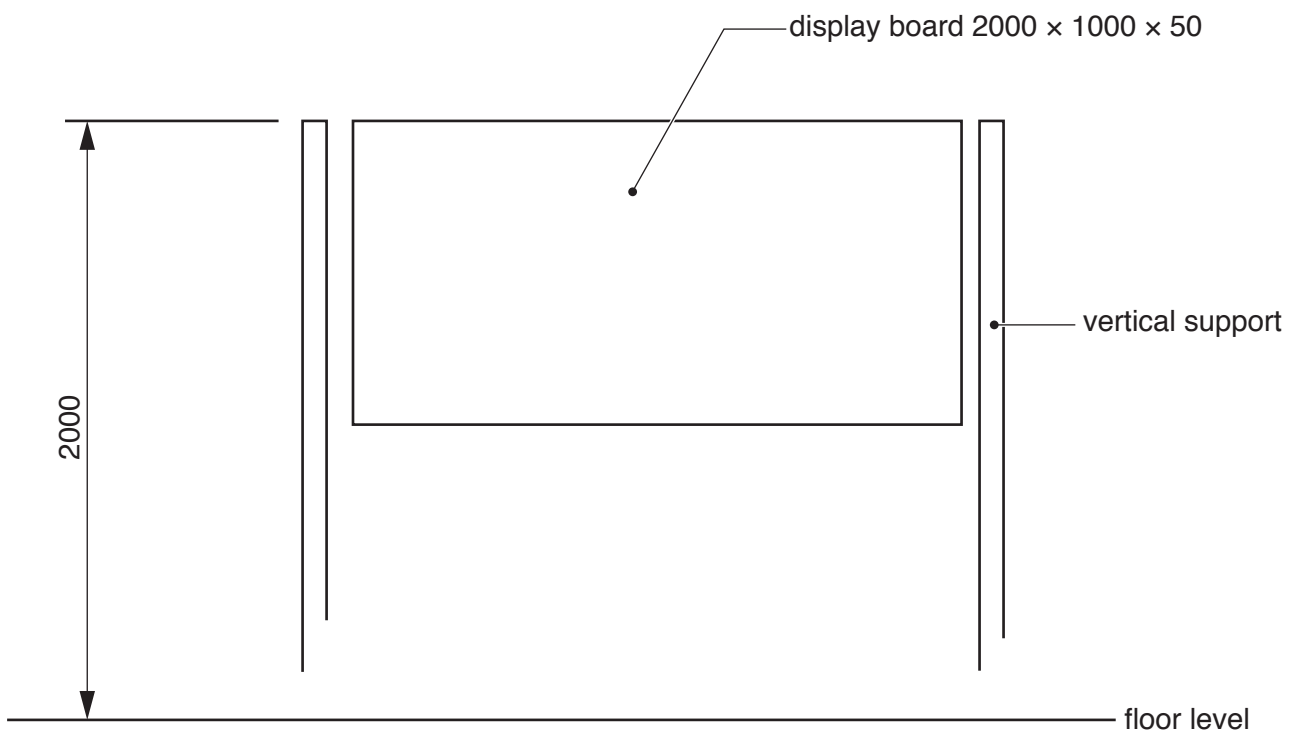

Fig. 8
- 7 Fig. 8 shows an incomplete idea for a display stand. A number of these stands will be used to display paintings at an art exhibition.